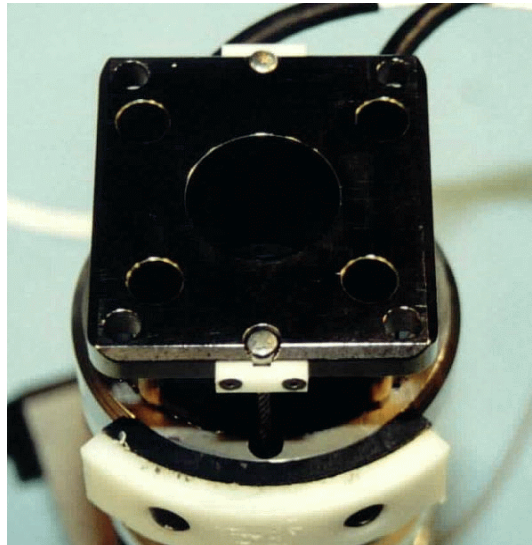

Figure 5.7- Attached cable seat covers
7. Attach a Cable Seat Cover (T1NKM022) to the lower neck load cell using two #2-56 x 3/8" FHSCS {0.050} at both the front and rear neck cable attachment points. These covers are mounted on the front and rear faces of the lower neck load cell bottom plate. **Figure 5.7** shows the location of these cable seat covers.